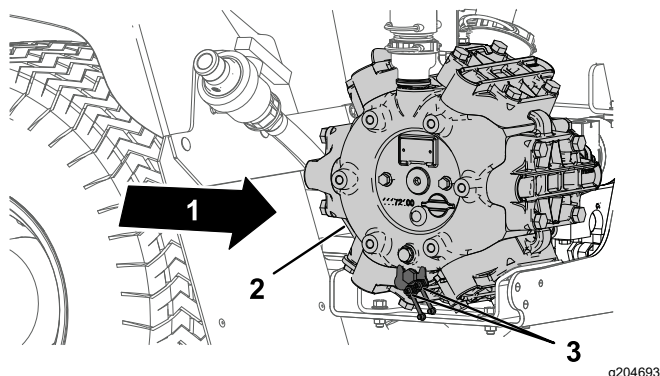

Figure 70
1. Wipe the 2 remote grease fitting clean (Figure 70).
2. Pump grease into the remote grease fitting (Figure 70).